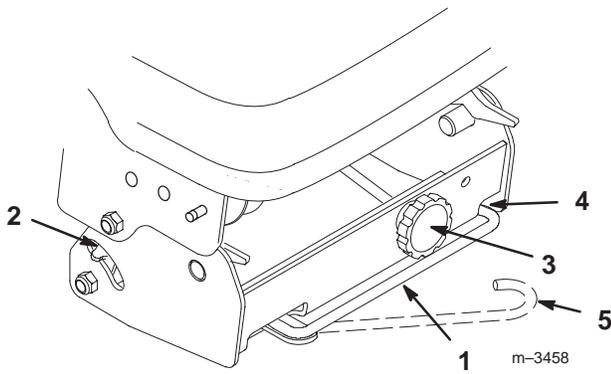

Figure 12
- Release the belt tension release arm on the pulley box housing and swing it out toward you (Fig. 12).
6. Loop the other end of the belt over the drive pulley of the mower. Additional belt slack can be obtained (if needed) by turning the belt tension adjustment knob (Fig. 12).
- C. If the tension indicators are not in the same position on both the left and right sides, release the belt tension, turn the adjustment knob and repeat steps A and B until the indicators move to the same position (Fig. 12).
- D. Once the indicators are in the same position on both sides, swing the tension release arm into the pulley box and seat it by moving it into the position shown in Figure 12.